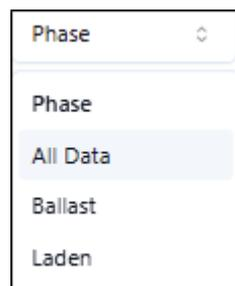
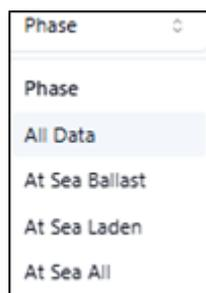

Figure 6 Phase filter under Voyage View
Figure 7 Phase filter under CII and Performance views
- **Phase Filter:** This filter enables users to view and benchmark ship data for all submitted data or specific voyage phases/conditions, such as ballast, laden, at sea (ballast), at sea (laden), or at sea (all). Options vary between the "Voyage" view (see Figure 6) and the "CII" and "Performance" views (see Figure 7).